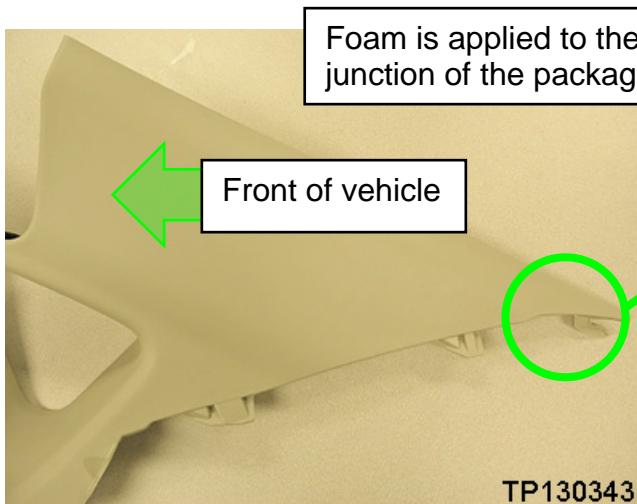

Figure 2
3. Apply to area shown in Figures 2 and 3.